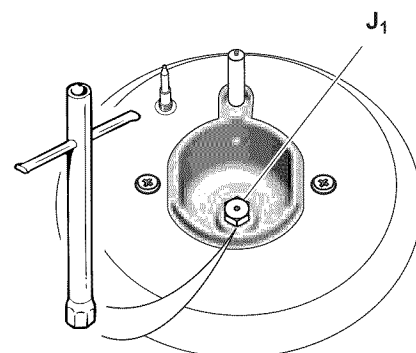

Fig. 2.11
- Using a wrench substitute the nozzle injectors "J₁", "J₂" and "J₃" (figs. 2.11, 2.12) with those most suitable for the kind of gas for which it is to be used.